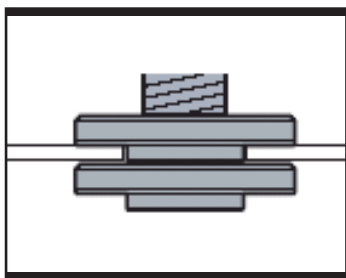
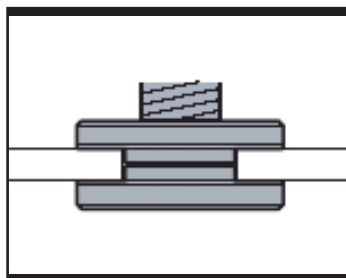

Fig. 3-1
Fig. 3-2
The outer flange (7) should be adjusted to suit different disc thickness. For thinner cutting discs the raised part of the outer flange is fitted facing away from the disc (See Fig.3-1). For thicker grinding discs the raised part of the outer flange is fitted facing towards the disc to provide improved support for the disc hole (See Fig.3-2). Always ensure your disc is securely clamped.